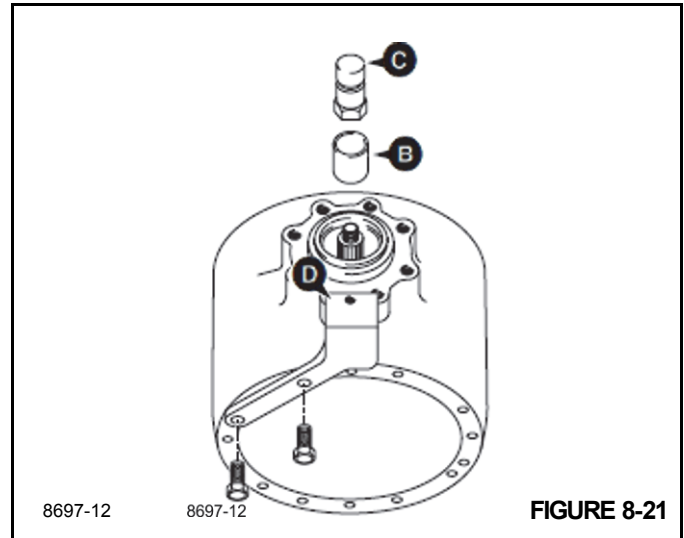

FIGURE 8-21
14. Fit special tool sleeve **B** (Figure 8-21) and special pinion shaft adapter **C**. Tighten adapter **C** to approximately 50 Nm, making sure the pinion is free to rotate and there is end float, this will prevent any damage to the bearing. If the pinion is not free to rotate or there is no end float at this stage check the bearing is fitted correctly. Also check the correct size spacer has been fitted.